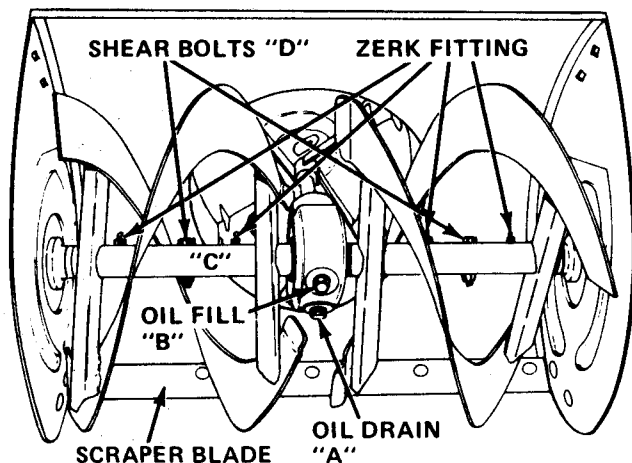

FIGURE 12
To drain and refill, remove fill plug (B), remove drain plug (A) and allow oil to drain. Tip machine back on handlebars. Pour oil into fill hole (B) until it starts to run out of drain hole. See Figure 12. Replace drain and fill plugs.
Grease rake shaft periodically or each time a shear bolt is replaced. At the end of the season, remove shear bolts, use a grease gun on zerk fittings to grease rake shaft, turn rakes on shaft several times and replace shear bolts. See Figure 12. Use Ariens 000150 grease.